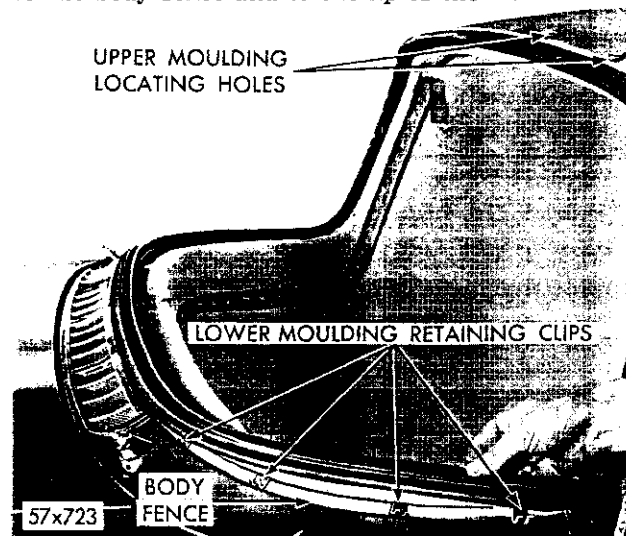

Fig. 25—Windshield Weatherstrip and Moulding—Sides (Imperial)
- (1) Check the moulding retaining clips around the windshield opening (Fig. 25).
- (2) Apply a generous coating of sealing compound to the body fence and to the lip of the weatherstrip